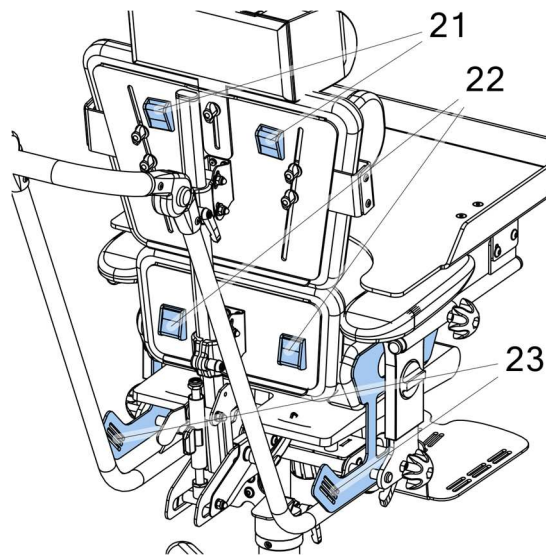

Fig. 14
The device is equipped with a vest and pelvic stabilization belts designed to secure the user's proper position. The vest and pelvic stabilization belts are attached to the device using straps. To properly attach the vest, thread the fastening straps through the buckles located at the back of the backrest. The vest's fastening buckles are located at the top and bottom of the backrest (21 and 22) in Fig. 14. The length of the vest's fastening straps can be adjusted by threading the straps through the fastening buckles on the backrest or through the buckles fastening the straps to the vest. The pelvic stabilization belts are attached to the loops located behind the armrests (23). The length of the belts is adjusted by threading the fastening straps (loosening or tightening) through the fastening buckles or loops.